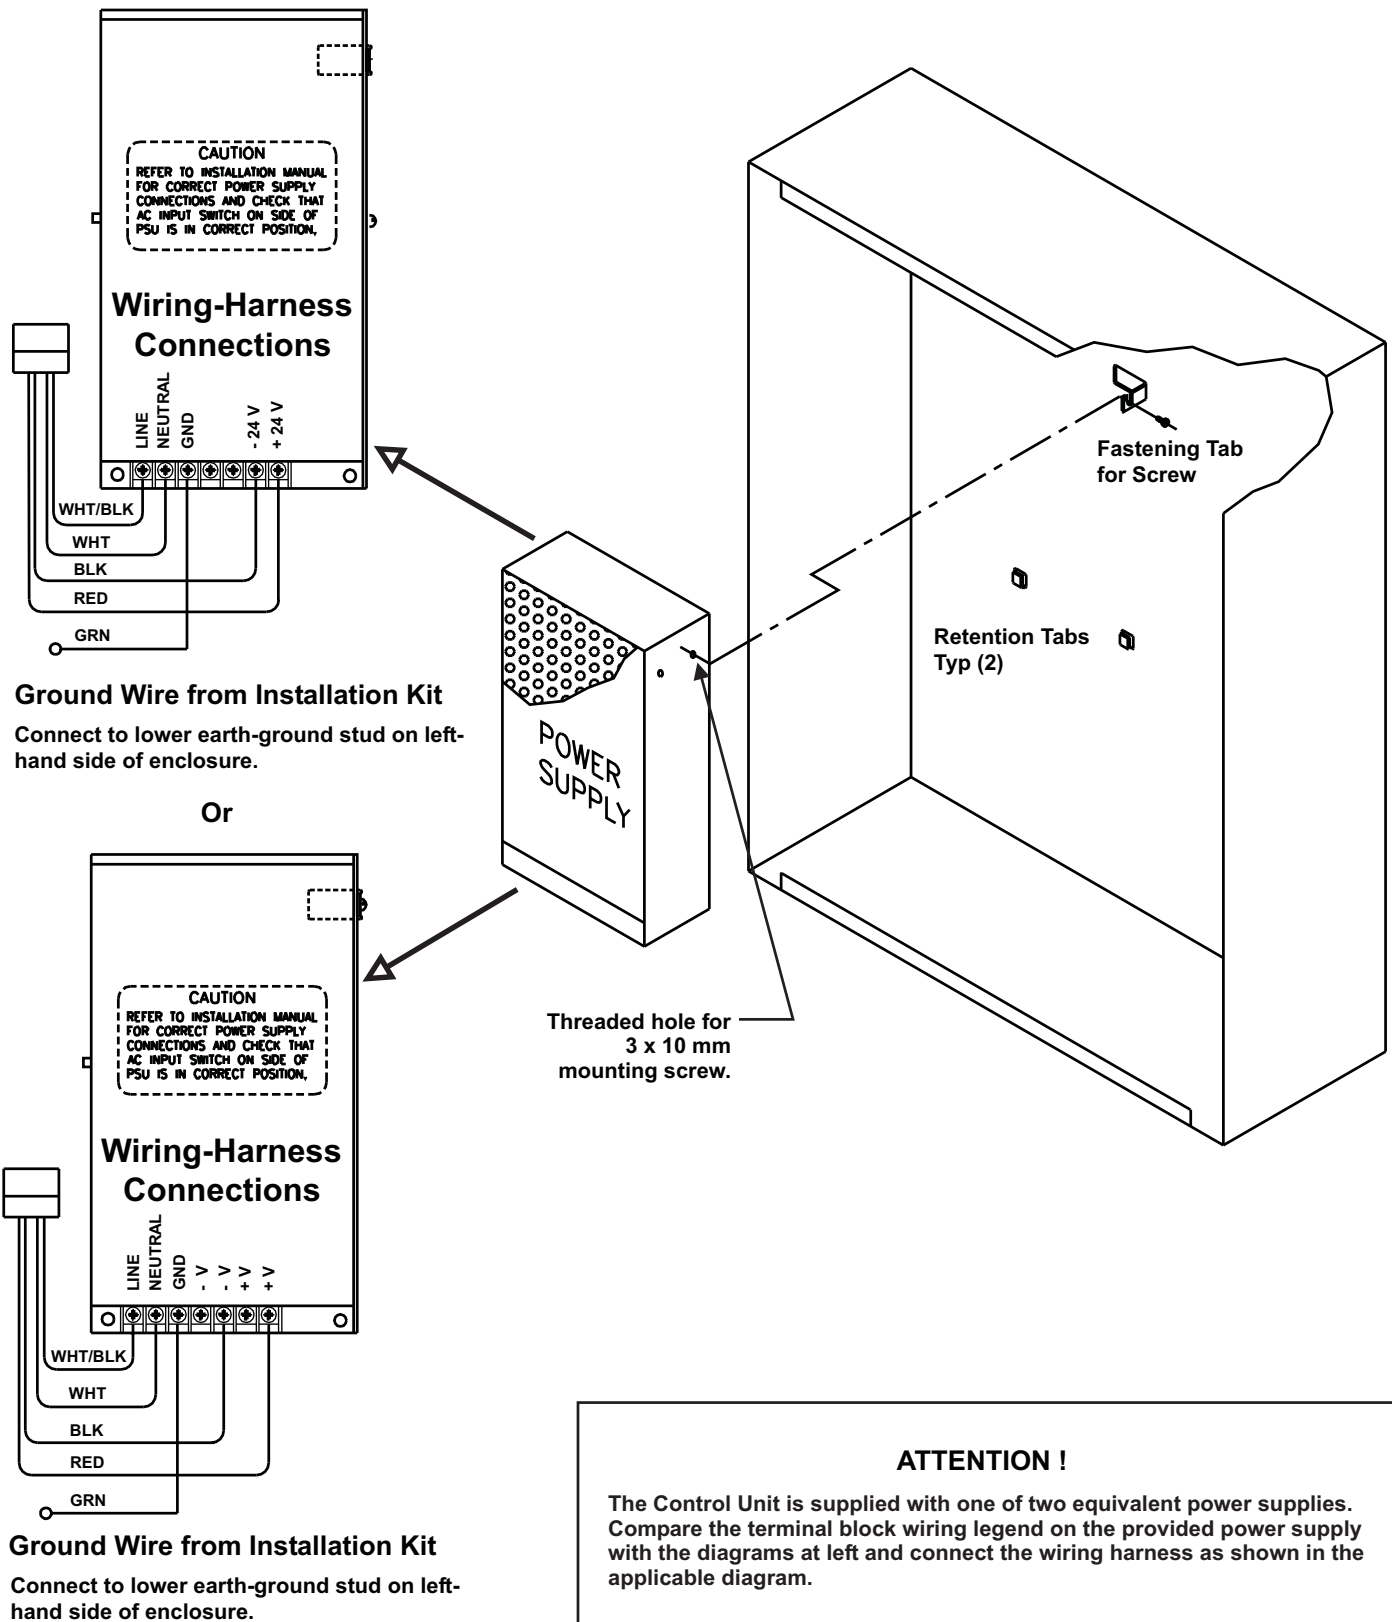

Figure 2-4. Power Supply Unit
2. Connect the wire harness that is packaged in the installation kit. Next connect the fork end of the green ground wire that is also part of the installation kit to the earth-ground terminal of the power supply. Refer to Figure 2-4 for wire harness and earth-ground connections.
3. Locate the 3 x 10 mm mounting screw in the installation kit and thread it part way into the lower of the two threaded holes of the power supply unit. See Figure 2-4.